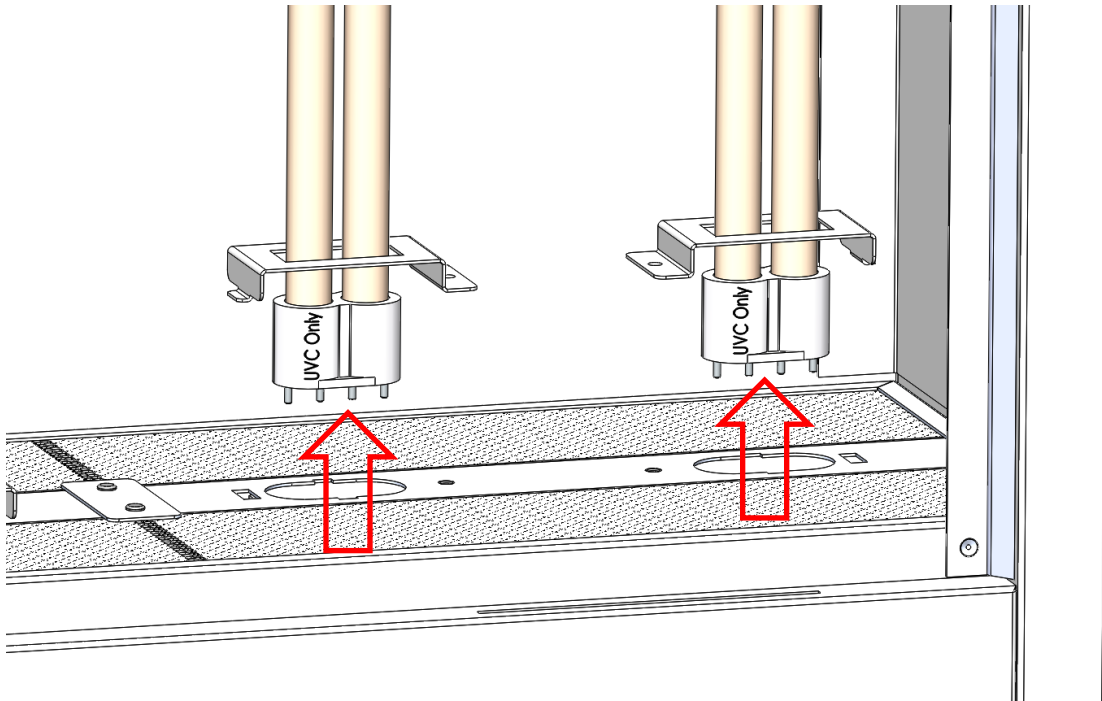
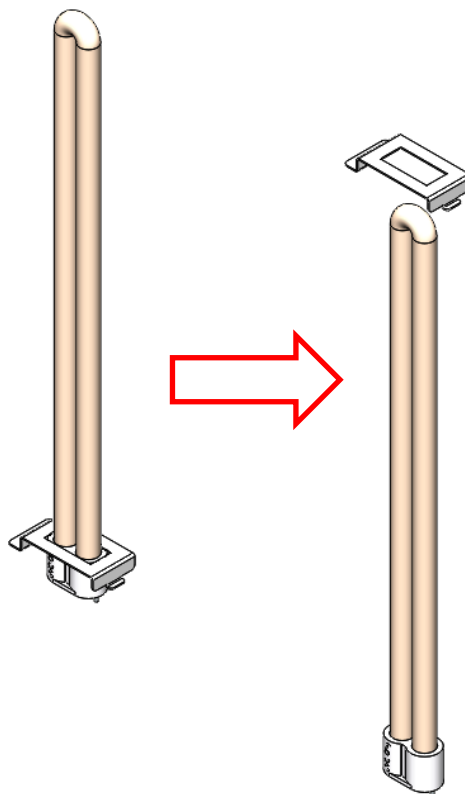

Figure 19: Remove Bulbs from Bulb Sockets and Bulb Support
Figure 20: Remove Bulb Clips from Bulbs and Save for use with New Bulbs
- 8) Put aside the bulb clips for use with the new bulbs. Put the bulbs to the side for disposal. See Figure 19 and Figure 20.